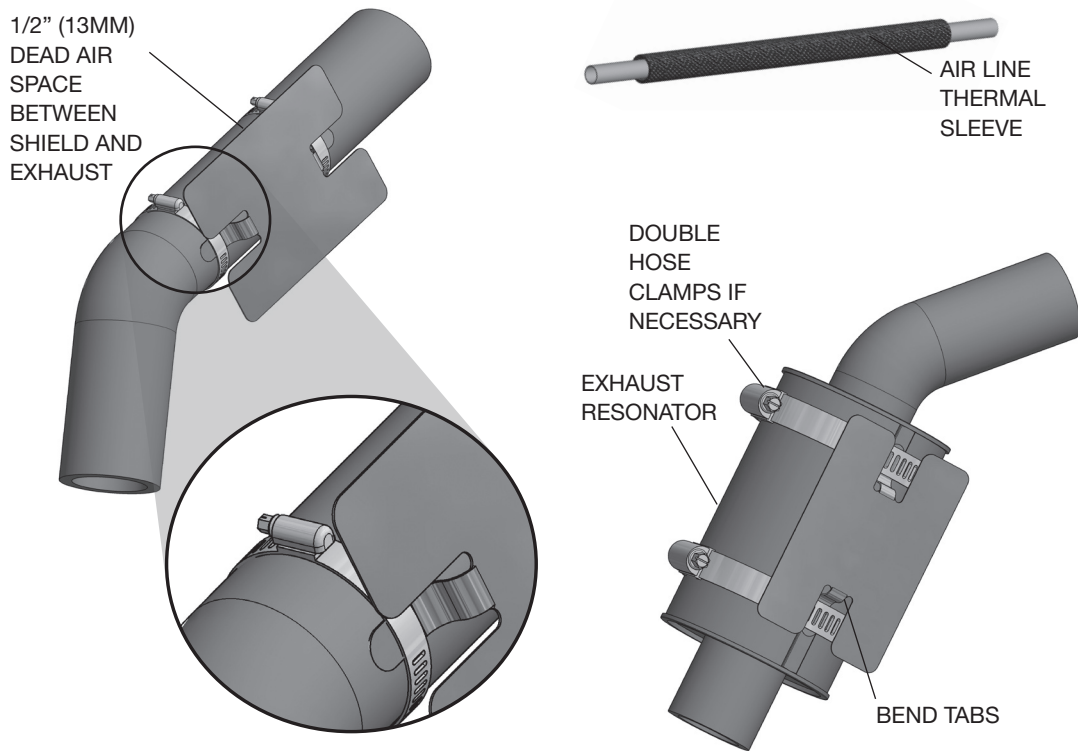

*Fig. 26*
5. Install the Schrader valve in the chosen location (Fig. 26).